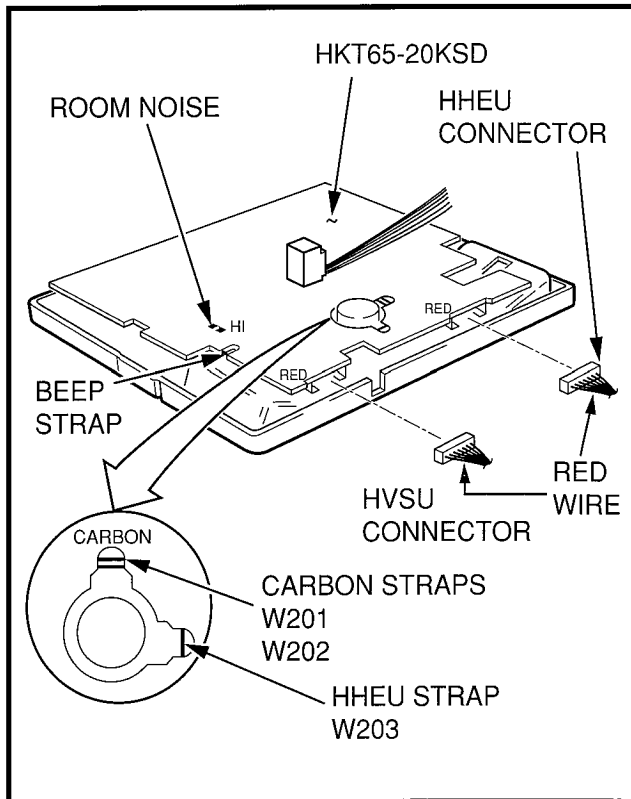

FIGURE 7-3—ELECTRONIC TELEPHONE PCB CONNECTIONS
- 6) Connect the HHEU PCB to the electronic telephone PCB as shown in Figure 7-3.
- 7) Cut HHEU strap shown in Figure 7-3.
- 4) Connect the HVSU/HVSI PCBs to the electronic telephone PCB as shown in Figure 7-3.
- 2) Refer to Figure 7-3, and locate the carbon straps **W201** and **W202**. Cut both straps.